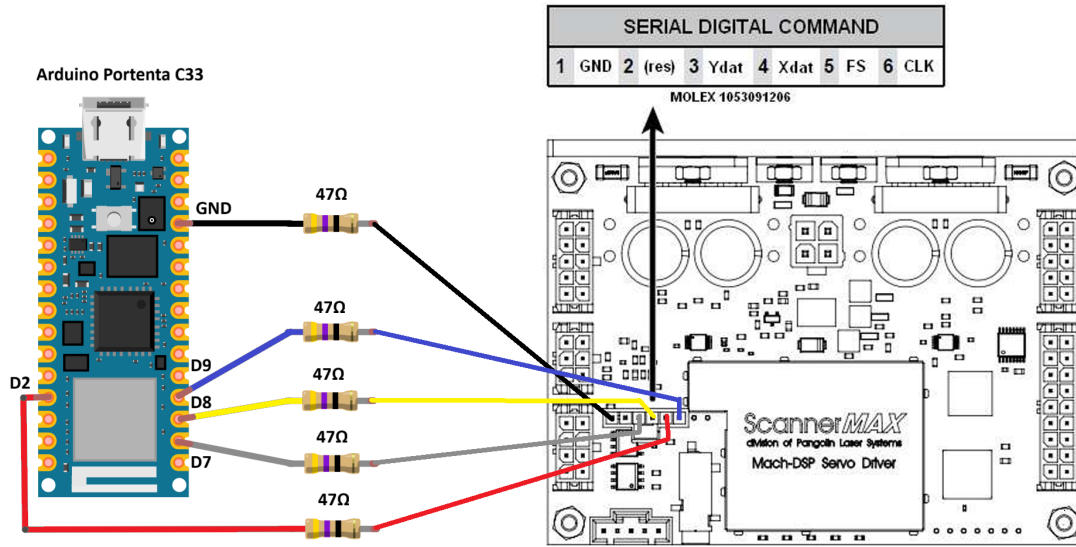

Figure 1: Connection diagram for Arduino Portenta C33 with XY2-100/FB4 interface
In theory, any Arduino can be configured to operate the XY2-100 or FB4 protocols for communication with the Mach-DSP. However, attention must be paid to the logic level voltage of the selected Arduino. The Mach-DSP operates at 3.3V logic, while many Arduinos use 5V; in these cases, a logic level shifter converter is required for proper communication. For this demonstration, an Arduino Portenta C33 was chosen because it operates at 3.3V. Additionally, the Portenta C33 provides multiple digital I/O pins suitable for signal generation. The recommended connections are shown in Figure 1.
- Signals are connected directly to the DSP processor, without protection of any kind. You should exercise care and use series-termination resistors. In the presented example 47-ohms resistors are used as shown in Figure 1.
4. Connect the Arduino to your scanner system following the appropriate pinout table Figure 1. provides and example for using an Arduino Portenta C33